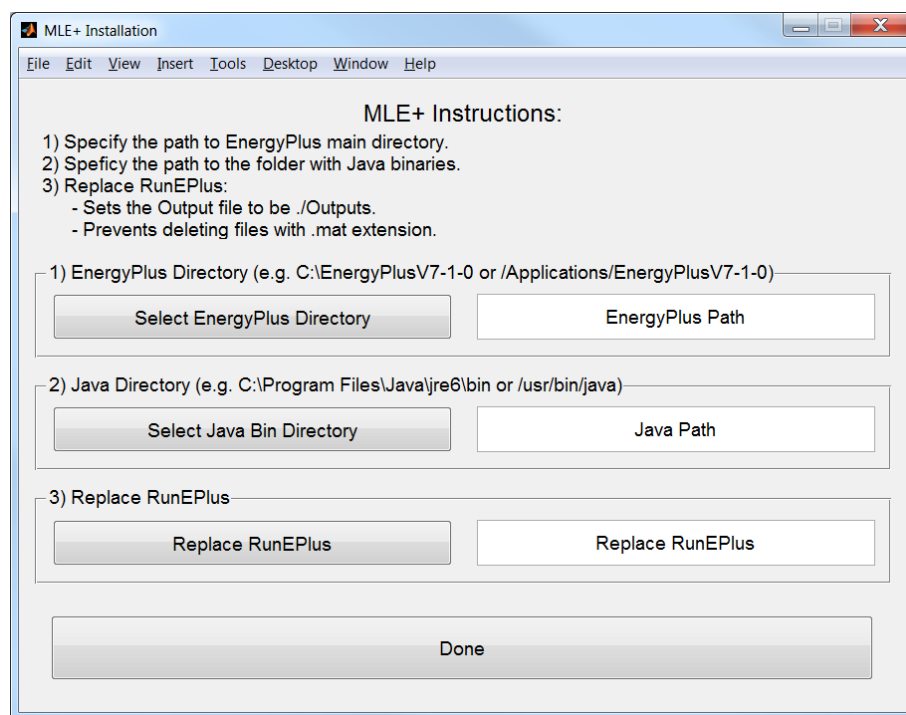

Figure 2: MLE+ Installation Screen.
3. Open Matlab and change the current directory to the `C:\software\mlep\MLE+` folder that has just been created. In Matlab, run the installation script `installMep.m` and follow the instructions. This will install the GUI Layout Toolbox and add the necessary paths to the Matlab environment automatically. After that, the installation screen in Figure 2 will appear. Here you need to specify the paths to EnergyPlus main Directory and the path to the folder with Java binaries. Also, this will replace your RunEPlus.batch file (in Windows).